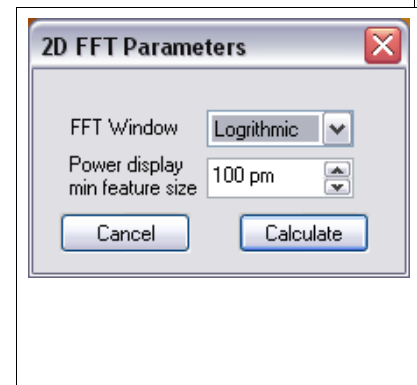

Figure 78
A two dimensional Fast Fourier Transform can be calculated from any data page by choosing **Image 2D FFT**. It will always be calculated on the entire image even if a region has been defined by the box. There are two choices that can be made when this menu item is selected as shown in Figure 78. The first one will usually be kept on *logarithmic* because this provides the best dynamic range of peaks visible in the result, but the spectrum can be shown in one of the other topview plot modes if desired. The **Power display min feature size** can be adjusted to not show any data smaller than the specified size. Since the FFT has long wavelength peaks in the center of the map and short wavelength peaks at the edge, the value provides the cutoff distance that the edge of the spectrum map will not go past since no meaningful data will be contained at those frequencies anyway. It is a simple method to “zoom in” on the peaks of interest and not display the result for the data near the outer edges of the 2D FFT. The FFT provides a spatial power spectrum of the data and therefore provides information on the spacing of the lattice in atomic resolution images. Additionally this can show the presence of any non-linear effects in the data since the orientation of the peaks in the 2D FFT will also reflect the shape of the unit cell. For example, an image of highly oriented pyrolytic graphite (HOPG) has a hexagonal unit cell and the FFT peaks should also be hexagonal in shape and centered around zero with no distortion. The unit cell of a 2x1 reconstruction of Si(001) will be rectangular so the FFT of this data would also show a rectangular array of peaks.